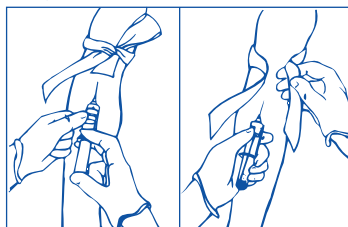

Figure 1
6. Remove needle shield. Perform venipuncture WITH PATIENT’S ARM IN A DOWNWARD POSITION AND TUBE STOPPER UPPERMOST (see Figure 1). This reduces the risk of backflow of any anticoagulant into the patient’s circulation.